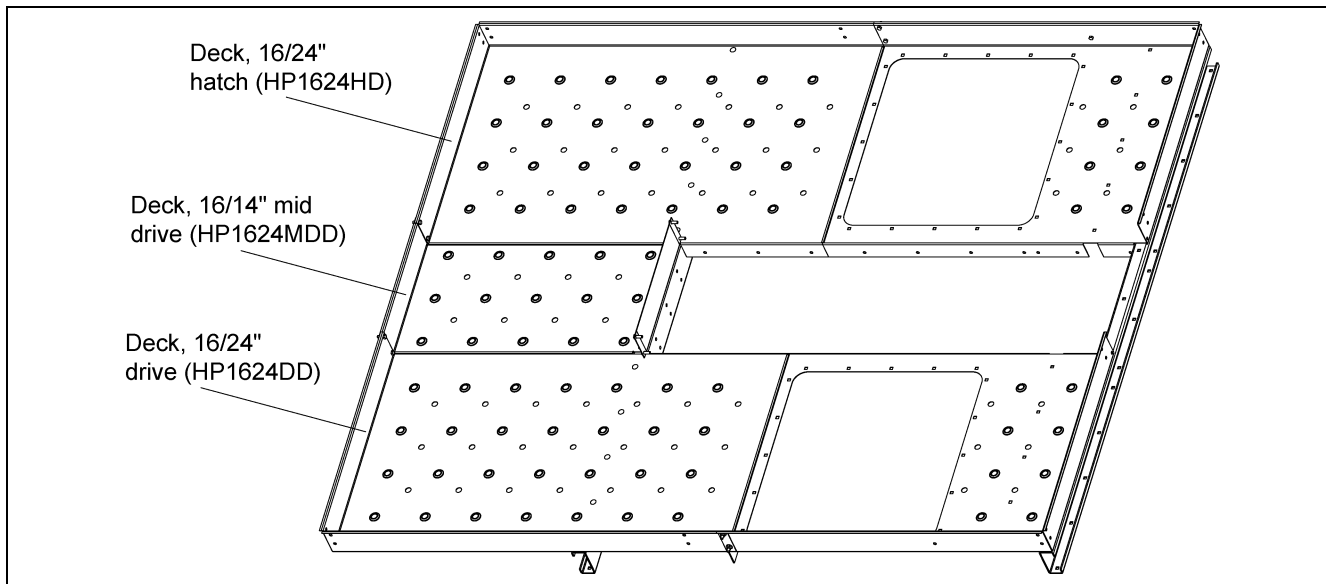

Figure 4B 24" Platform
The drive deck and hatch deck sections are interchangeable. All shown views are consistent for a right hand drive elevator. If you are assembling a left hand drive elevator the hatch deck would be closest to you and the drive deck farthest *in Figure 4B*. Place outside floor sections (drive attach) on support channels in location shown below and fasten using 3/8" x 1" carriage bolts and whiz nuts. Fasten mid drive deck to the two (2) outside floor sections with 3/8" x 1" bolts and whiz nuts. Make sure not to tighten the hardware until assembly is complete.